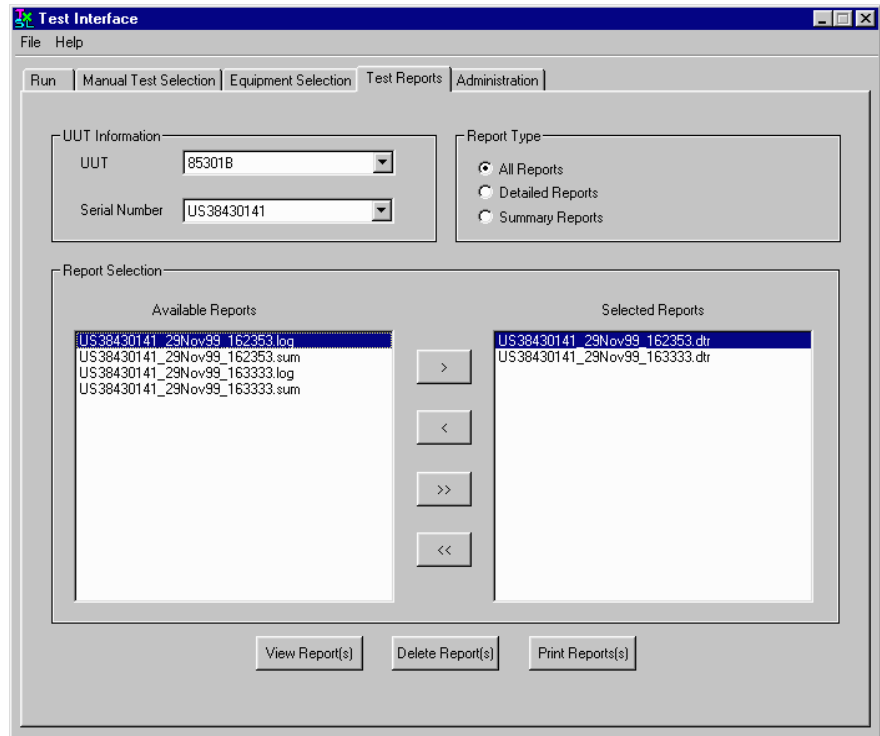

Figure 30 *Test Reports Tab*
19. After all tests in the selected test plan are done, click the **Test Reports** tab to select and print the recorded test data. You can select summary or detailed reports identified by UUT model, serial number, and time and date. See Figure 30.